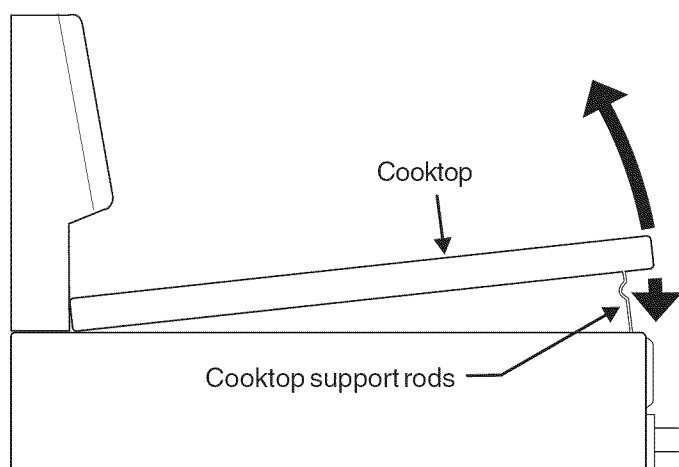

Fig. 1
2. Grasp the sides of the cooktop and then lift from the front (See Fig. 1)
1. Open oven door completely (horizontal with floor - See Fig. 1).